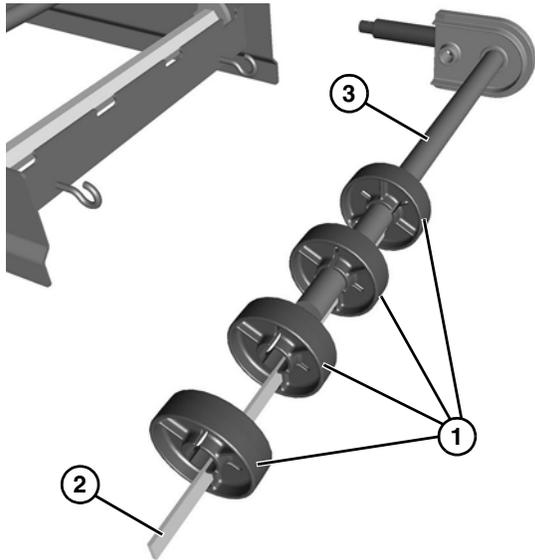

Figure 61
- Slide the pucks (**Figure 61, item 1**) and alignment bar (**Figure 61, item 2**) off the idler shaft (**Figure 61, item 3**).